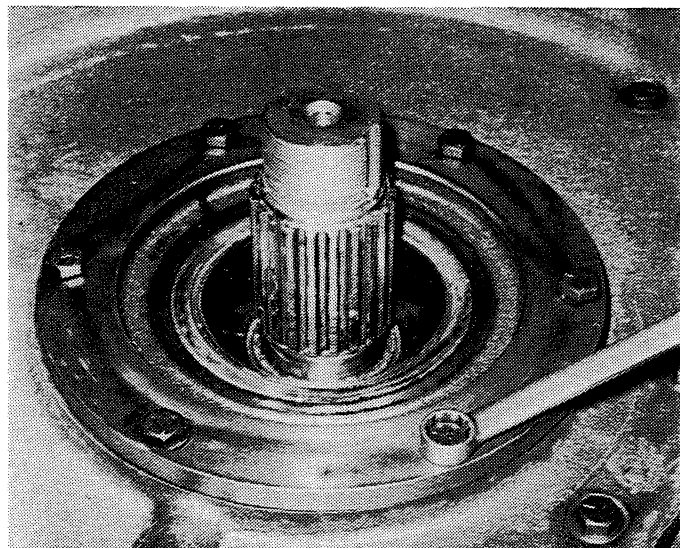

Figure 6-30. Removing or Installing Bearing Retainer.
1. Remove six hex-head screws (Figure 12-2, 52) from the bearing retainer (49) on the forward shaft and remove the bearing retainer. See Figure 6-30.